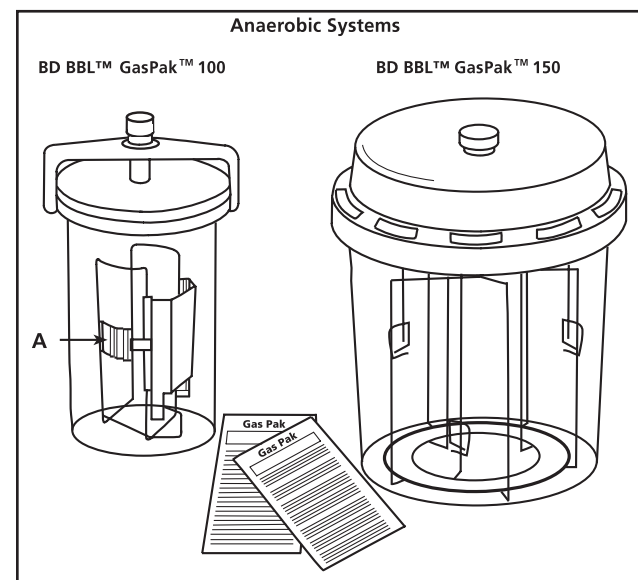

Figure 1
- When using BD BBL GasPak Plus envelopes always use an anaerobic indicator (Cat. No. 271051). Place indicator strip in center of metal indicator holder (see Fig. 1,A) with indicator pad upright. Place the rack in the BD BBL GasPak jar. (**Note:** No indicator clip is available on the 150 rack.)
- Place an anaerobic indicator in rack as described in Fig. 1 for BD BBL GasPak 100 and BD BBL GasPak 150 Anaerobic Systems, step 3. If using Dry Anaerobic Indicator Strips, dip indicator pad in water before placing in rack. Place the rack in the GasPak jar.